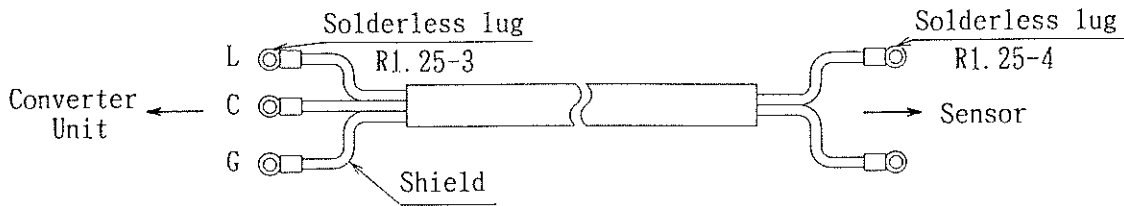

Fig. 12
- (2) Install solderless lugs fitted to M3(Converter unit side) and M4(Sensor side) screw to the end of lead wires. (See Fig. 12)